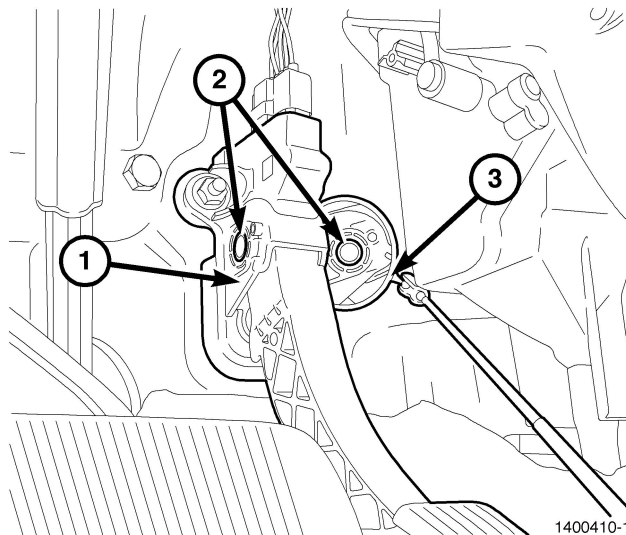

Fig. 1 ACCELERATOR PEDAL
1. Inspect the bronze pivot bushings located on each side of the pedal assembly housing. Are both bushings found flush with the surface of the assembly housing? (Fig. 1).